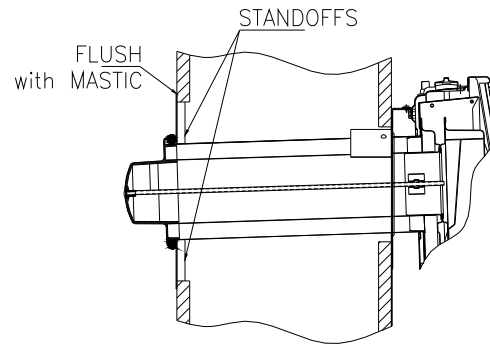

Figure 17
3. The hole at the outside of the wall must be a square of 11 1/2" (290 mm) x 11 1/2" (290 mm). (See figure 17).
5. Slide pipes (B) and (C) through the hole in the wall, and connect them to the appliance flue outlet and air intake, respectively.
6. The outdoor mounting plate and the silicon-rubber ring should be installed between the vent cap and the exterior wall. The plate must be positioned flush to the wall and with its standoffs inserted into the wall and sealed with a non-hardening mastic (silicone caulk). (See figure 17). Position the outdoor mounting plate so that the vent-air intake pipe has a slight downward slope to the outside. **The downward slope is necessary to prevent the entry of rainwater.**
- Before attaching the vent cap to the exterior wall, run a bead of non-hardening mastic (silicone caulk) around its outside edge, so as to make a seal between it and the plate. (See figure 17).